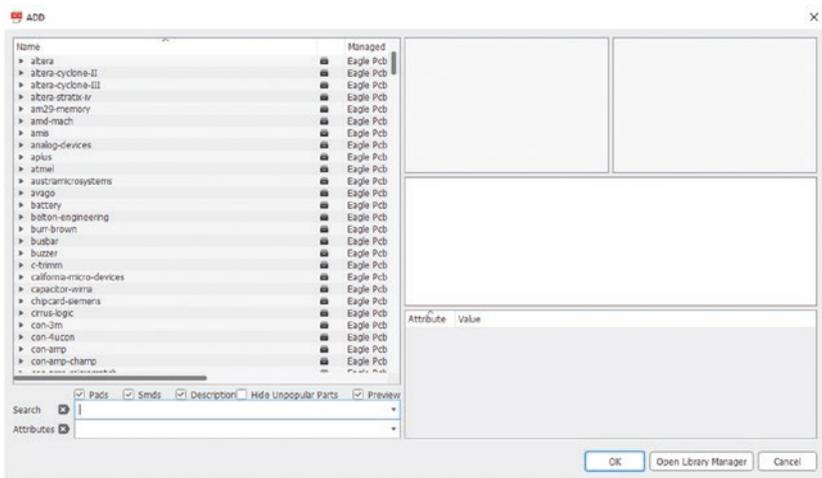

Figure 5-34. ADD window
21. Click the ADD button again. See Figure 5-34.